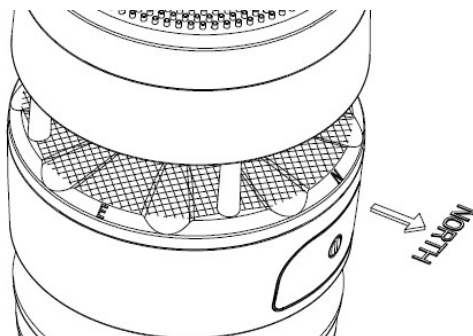

Figure 5 Facing North diagram
3. There is an arrow icon with "N" words (Figure 5) representing the direction of North. The sensor body has to be adjusted so that the "N" indication is facing to real north direction in your location. A compass device is recommended to help adjust direction. Permanent wind direction error will be introduced when the outdoor sensor is not installed in right direction.